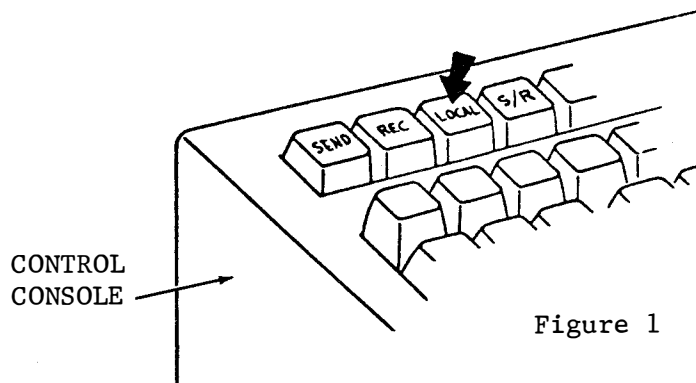

Figure 1
- The LOCAL key should light (Figure 1).